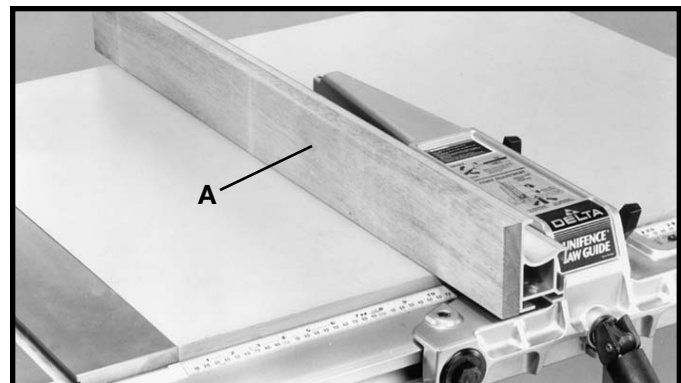

Fig. 63
It is necessary when performing special operations such as when using the moulding cutterhead to add wood facing (A) Fig. 63, to one side of the rip fence as shown. The wood facing is attached to the fence with wood screws through holes you drill in the fence. A suitable stock size for most work is 3/4", although an occasional job may require one inch facing.